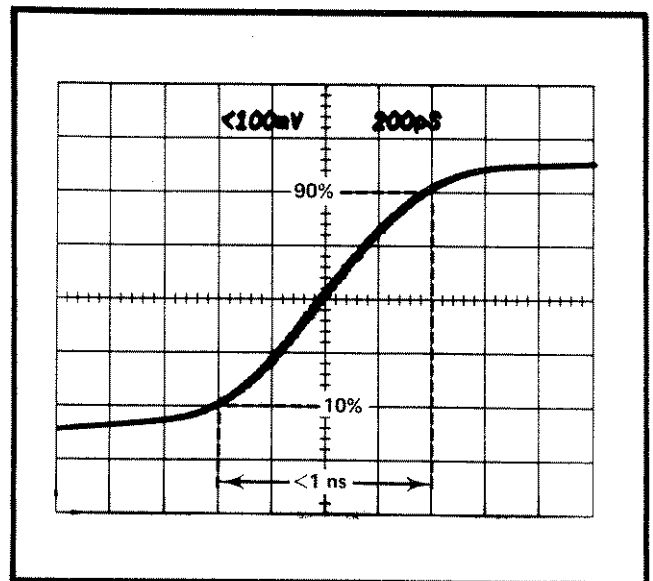

Fig. 5-3. PULSE OUTPUT risetime.
f. Set the 7T11 Time/Div to 200 ps, and set the Time Position control to position the PULSE OUTPUT leading edge to the center of the graticule. See Fig. 5-3.